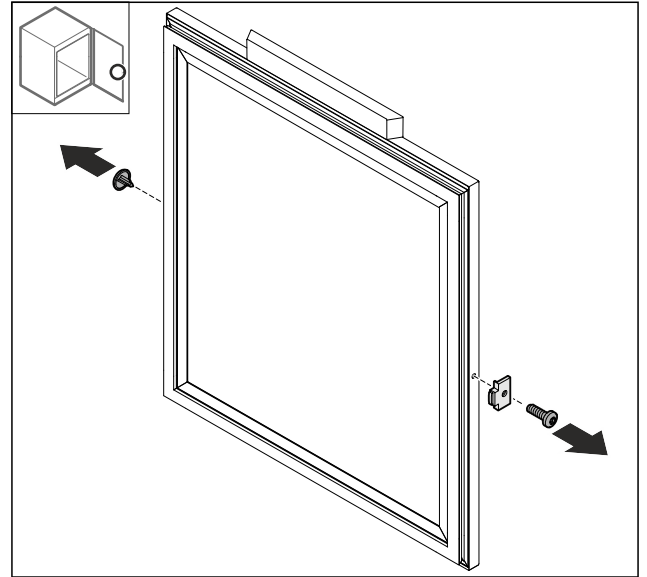

Fig. 47
- Remove cover Fig. 47 (1).
- Detach the Fig. 47 (2) door stopper.